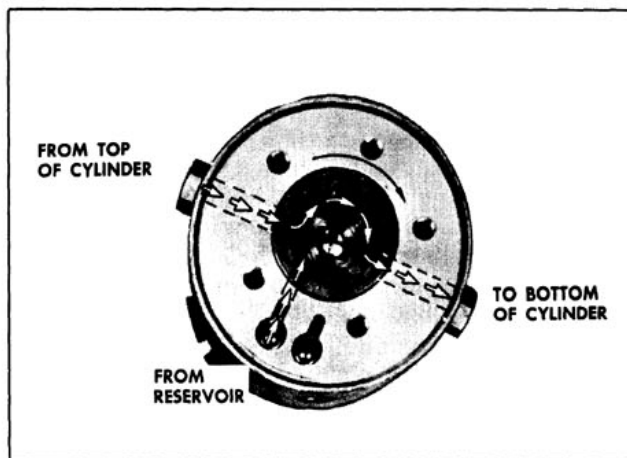

Fig. 16-154 Pump Operation to Raise Top
1. Raising the Top. When the red motor lead is energized, the motor drive shaft turns the rotors clockwise as indicated by the large arrow in Fig. 16-154. The action of the pump rotors forces the fluid under pressure to the bottom of each cylinder forcing the piston upward. This action causes the fluid above the piston in each cylinder to be forced into the pump, which recirculates the fluid to the bottom of the cylinders. The additional fluid required to fill the cylinder due to piston rod displacement is drawn from the reservoir.